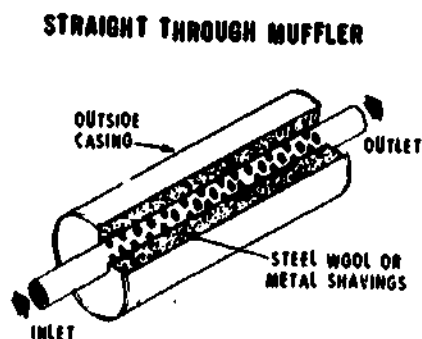

Fig 5-10. Straight-through muffler.
a. Straight-through-type muffler (fig 5-10). There are two basic muffler designs. One is called the straight-through type in which a pipe extends straight through the muffler. Holes are drilled all around the pipe, and metal shavings or glass wool are packed in the chamber that surrounds the through pipe.